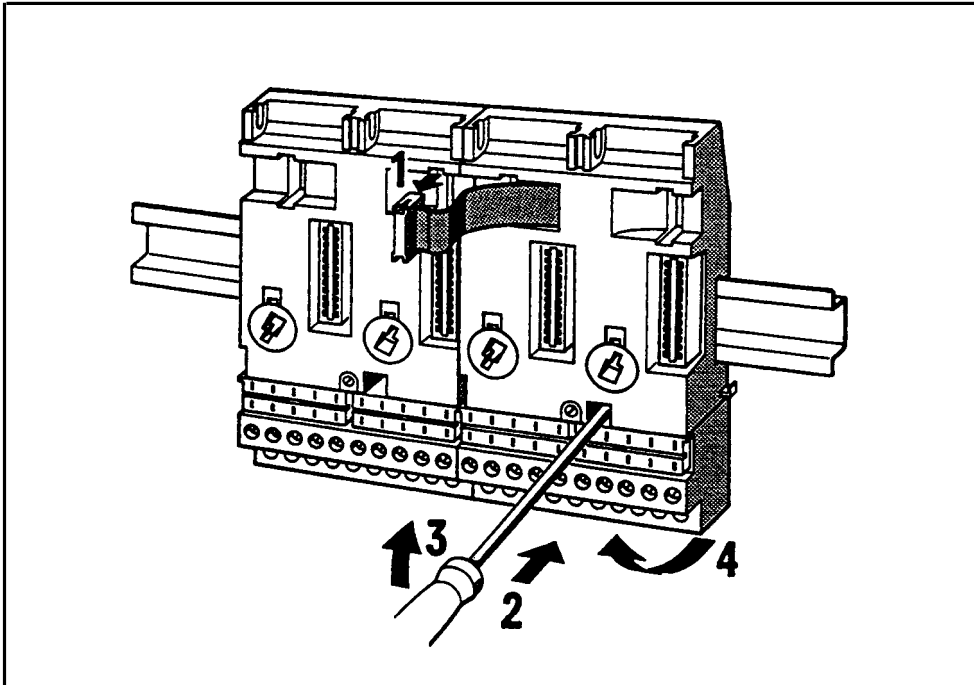

Figure 3-13 Detaching a Bus Unit from the Standard Sectional Rail
- Use a screwdriver to press the catch down (→Figure 3-13).